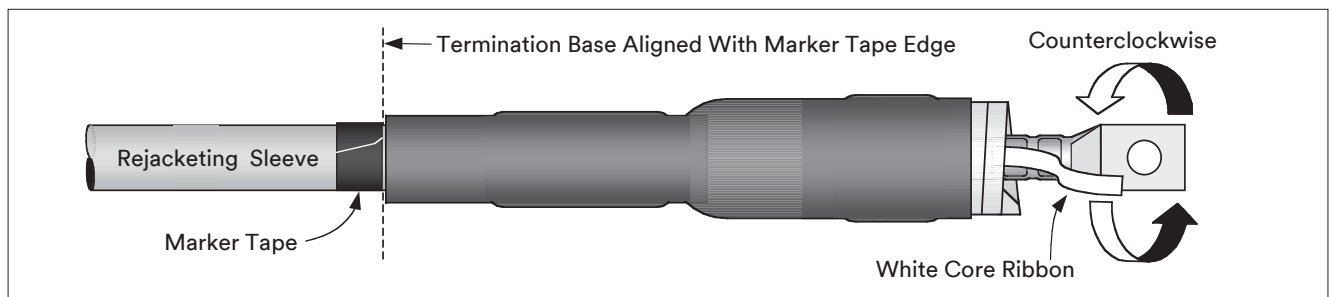

Figure 23
- Align the base of the termination (not the plastic core) with the installation marker tape as shown (Figure 23).
- Grasp the loose white core ribbon. Pull the core while unwinding, counterclockwise, starting with the loose end (Figure 23). Be sure to alternate the pulling and unwinding actions (pull-unwind-pull-unwind-etc.) to help prevent the core material from binding up as the core is being removed.